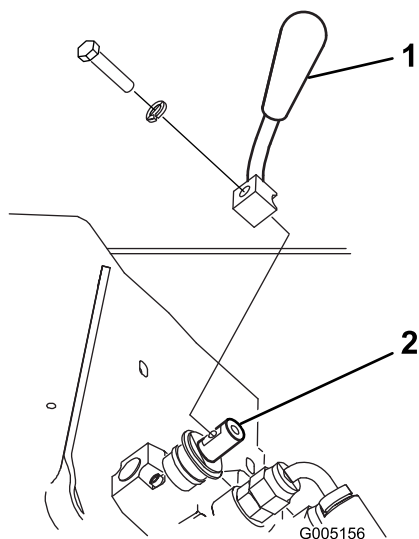

Figure 3
2. Secure the lever to the speed selector valve using the bolt and lock washer as illustrated in Figure 3.